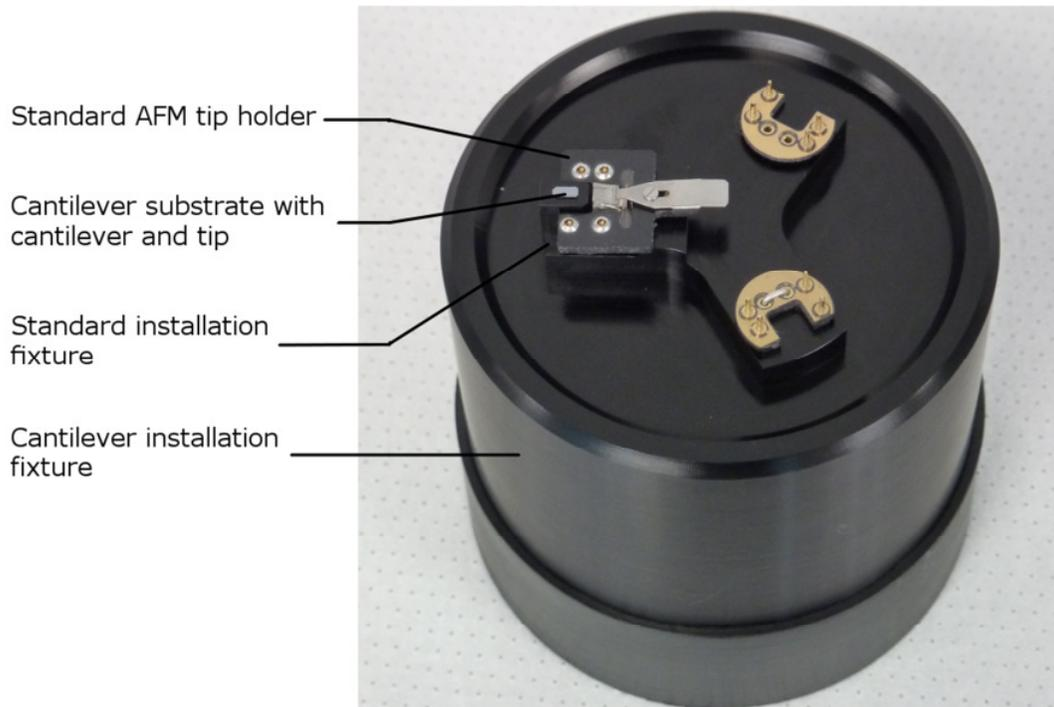

Figure 4: Cantilever installation fixture with a standard AFM tip holder in its fixture. A cantilever substrate is positioned in front of the tip holder pocket.
- 1.1. Put a standard AFM tip holder onto the cantilever installation fixture (see Figure 4)